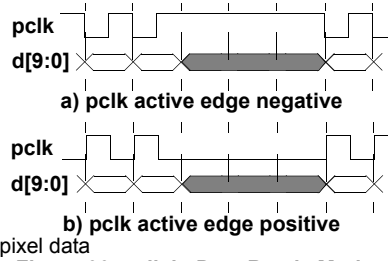

Figure 33. pclk in Data Ready Mode
- In data ready mode, (the *PixClkMode* bit of DVBUSCONFIG1 register is set to a logic 1), the pixel clock output pin **pclk** will produce a pulse with a specified level every time valid pixel data appears on the digital video bus **d[9:0]** as shown in Figure 33.